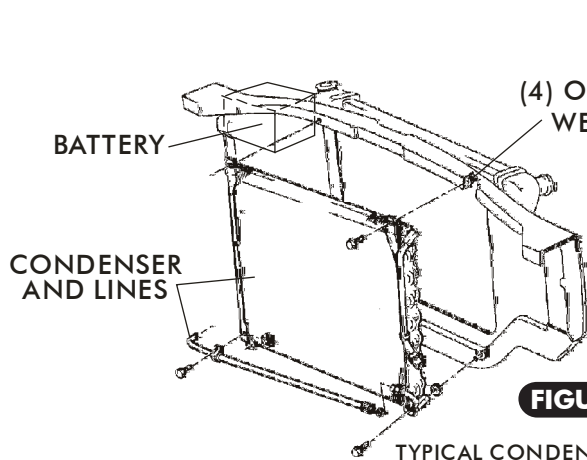

FIGURE 1
- ☐ BATTERY AND BATTERY TRAY (RETAIN), (SEE FIGURES 1 AND 3, BELOW).
- ☐ CONDENSER, LINES AND THE (4) OEM RUBBER WELL NUTS IN THE CORE SUPPORT (DISCARD), (SEE FIGURE 1, BELOW).